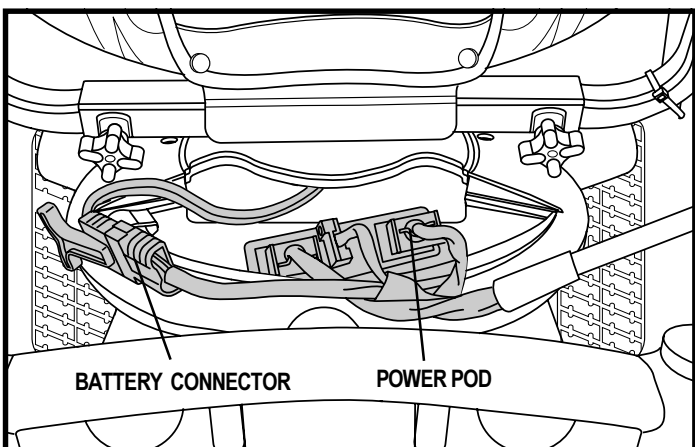

Figure 12. Place Power Pod in Power Base First.
6. Place the power pod into the power base. See figure 12.
17. Place the power pod back into the power base. See figure 12.